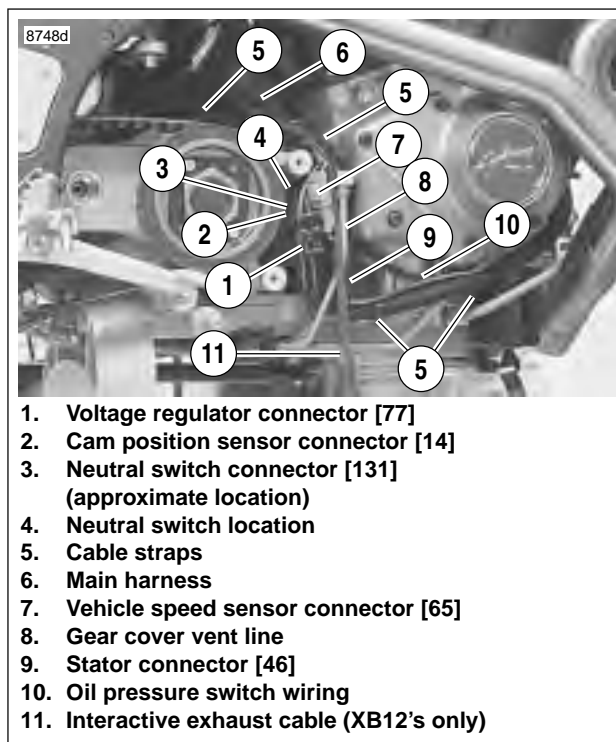

Figure 7-93. Sprocket Cover Wiring
2. See Figure 7-93. Disconnect appropriate connector(s).
See Figure 7-93. All wiring under sprocket cover that gets routed from sprocket area towards front of vehicle is routed behind gear cover breather line (8).
1. Route oil pressure switch wiring (10) from main harness (6), behind gear cover vent line (8) to oil pressure switch located on front of engine.